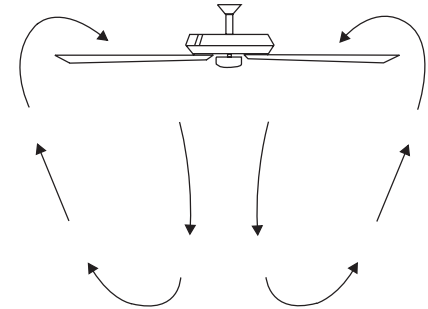

Fig.19
**Warm Weather Operation: Forward (counter clockwise).** A downward airflow creates a cooling effect (Fig. 19). This allows you to set your air conditioner on a warmer setting without affecting your general comfort.